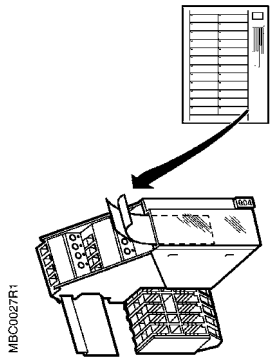

Figure 3. Labeling the Point Module.
2. Remove the label from the perforated sheet. Fold label to double thickness and insert it through the slot located on the left-hand side of the module (Figure 3). The label should fit snugly under the transparent module identification window.